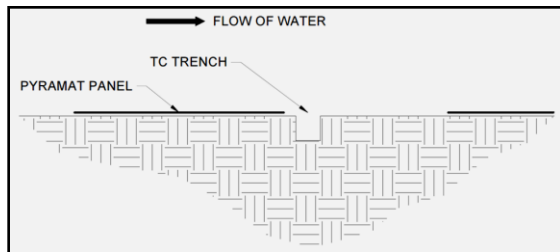
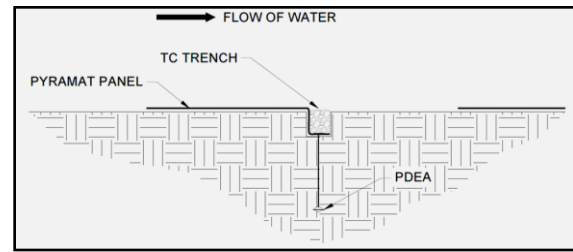

Figure 26: Terminal Channel (TC) Trench Alignment
Figure 27: Terminal Channel (TC) Trench Placement
14. Lay the Pyramat panel on the upstream side of the TC trench (Figure 26). Place the panel edge in the TC trench, ensuring full coverage along the bottom of the entire TC trench with the Pyramat (Figure 27).
15. Secure Pyramat with pins and PDEAs in the TC trench. Suggested placement of pins and PDEAs for the TC trench is along the bottom of the trench with pins on 12 in (300 mm) centers in between PDEAs on 5 ft (1.5 m) centers (Figure 27).